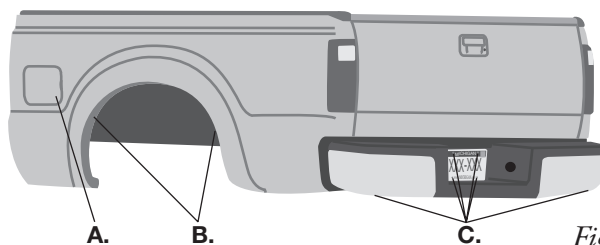

Fig. 15
5. Select a location for the Schrader valve (N), ensuring that the valve will be protected and accessible with an air hose (Fig. 15). Drill a 5/16" (8mm) hole, if necessary. Determine and cut adequate length of air line to reach from the tee to the Schrader valve or from the air springs to the valve if using a dual-path installation.